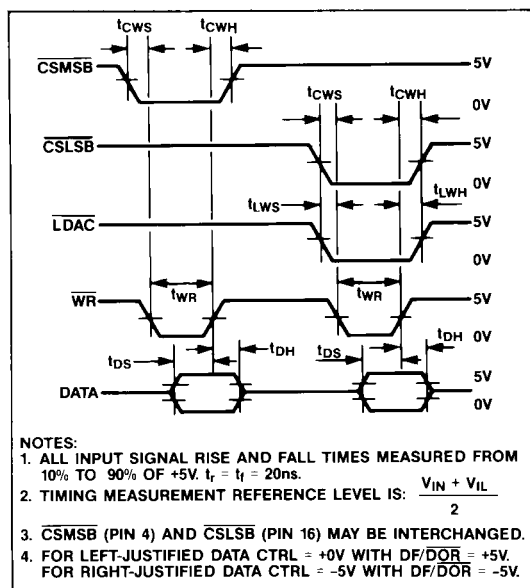

Figure 5. Timing Diagram
**Note 3:** See Figure 5 Timing Diagram.
In many applications the gain adjustment will not be necessary, especially with versions that guarantee maximum  $\pm 1\text{LSB}$  gain errors. In these cases and also when the gain is trimmed at the reference source, resistors R1 and R2 in Figure 5 can be omitted. However, if the trims are desired and the DAC is operated over a wide temperature range, then low tempco ( $<300\text{ppm}/^\circ\text{C}$ ) resistors should be used for R1 and R2. The full scale is adjusted by loading the DAC with all 1s code (using the override function) and adjusting R1 for  $V_{OUT1} = -V_{IN}(4095/4096)$ .